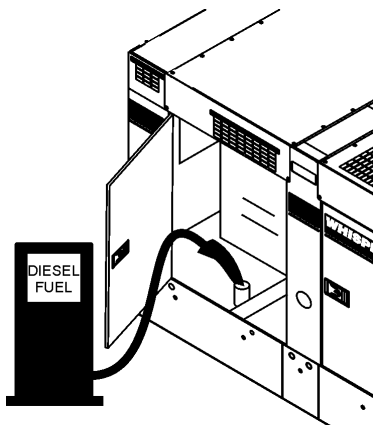

Figure 20. Fueling the Generator
4. Open cabinet doors on the “right side” of the generator (from generator control panel position). Remove fuel cap and fill tank (Figure 20).